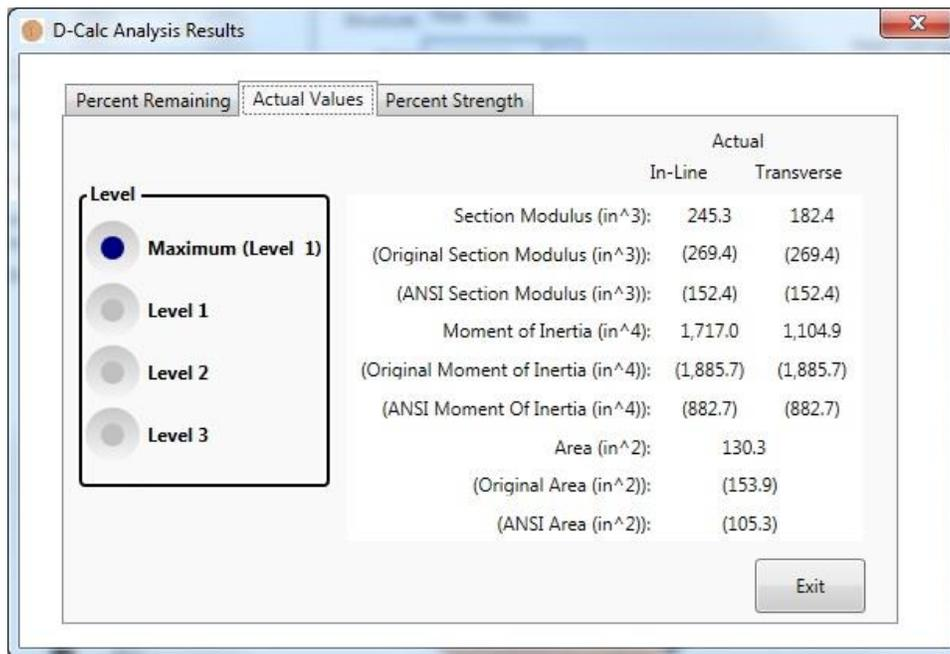

Figure 5-2. Example of "Actual Values" Tab in Results Window
- **Actual Values** of Section Modulus, Moment of Inertia, and Area (Figure 5-2)